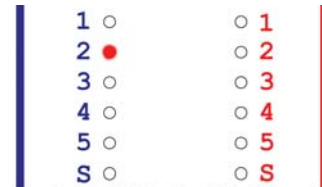

Fig 9. OPEN circuit at Pin 2 (Local)
b) An open connection was found, usually indicated by a single LED (Fig9).